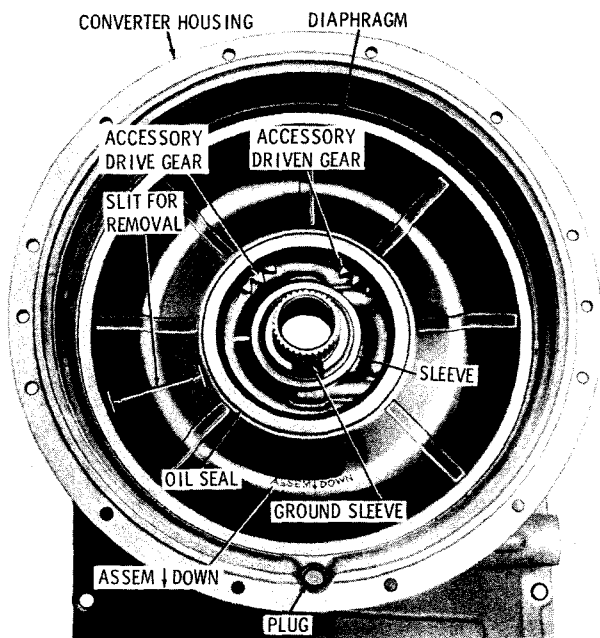

Fig. 6-5. Torque converter housing—front view S1441
Note: If the transmission does not include the diaphragm shown in figure 6-5, begin disassembly at (5), below.
(1) If the transmission has a "dry" converter housing, it will have a pressed steel diaphragm and oil seal (fig. 6-5). These must be removed before the accessory gearing can be removed. Removal of the diaphragm destroys the diaphragm and seal.
(2) To remove the diaphragm, cut a slit through the diaphragm, as shown in figure 6-5). Insert a hooked tool into the slit and pry the metal above the slit outward. This will push the metal below the slit inward. Deforming the diaphragm in this manner will reduce its outside diameter and allow the diaphragm to be lifted from the converter housing.
(3) Clean the bore from which the diaphragm was removed. A smooth, clean bore will prevent leakage after the new diaphragm has been installed.
(4) Remove the welch plug from the converter housing only if replacement is necessary (fig. 6-5). If necessary, drive the plug from its bore, and clean the bore from which the plug was removed.
(5) Remove the step-joint seal from the converter housing sleeve (fig. 6-5). If replacement of the converter housing sleeve is necessary, remove it from the front of the housing.